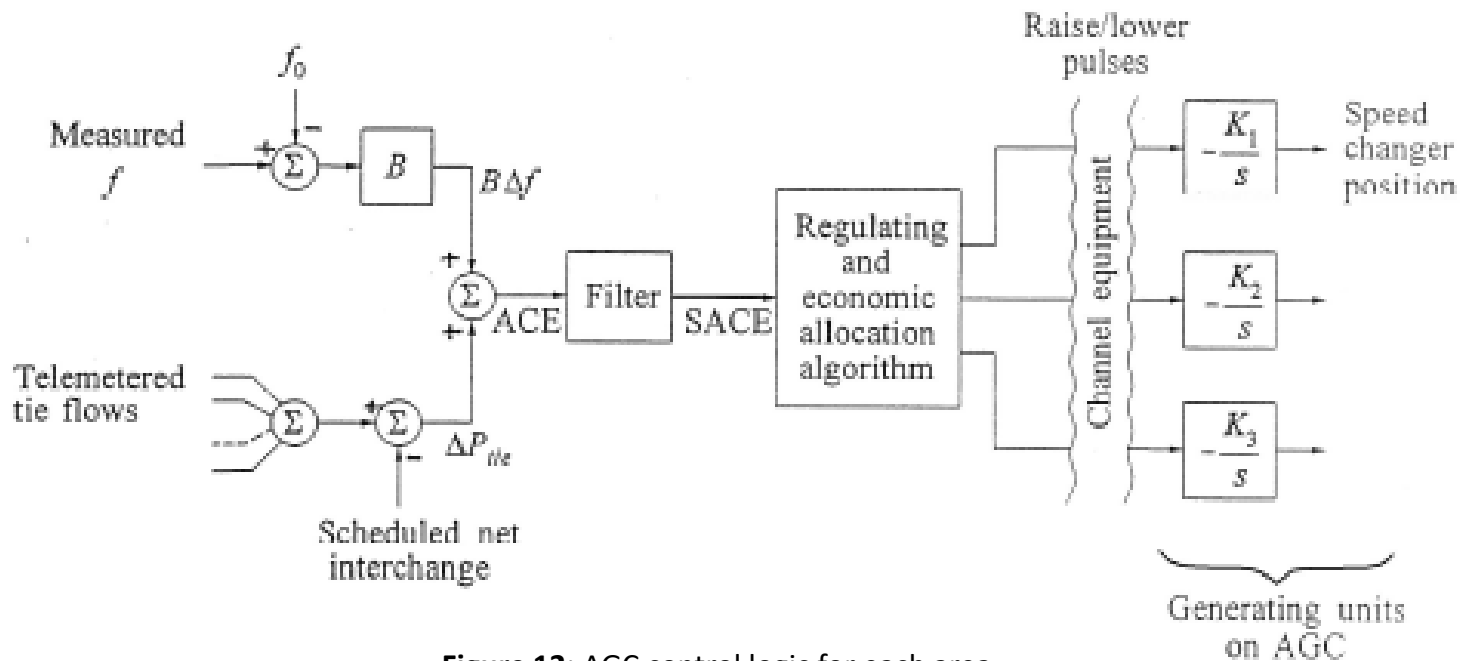

Figure 12: AGC control logic for each area
- Figure 12 illustrated calculation of ACE Bias factor,  $B$ , set nearly equal to regulation characteristic ( $I/R + D$ ) of the area;